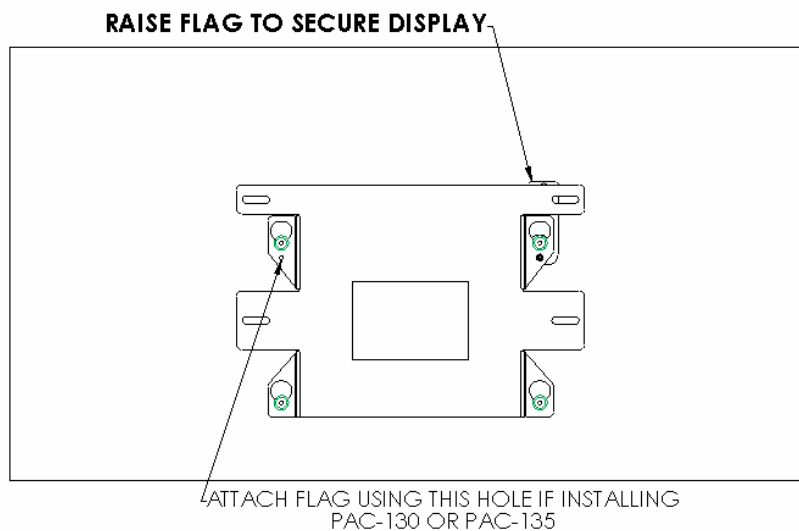

Figure 5
5. With the aid of another person, lift the display up to the mount, align the mounting buttons on the display with the teardrop slots in the mount, and set the display into place (see Figure 5).